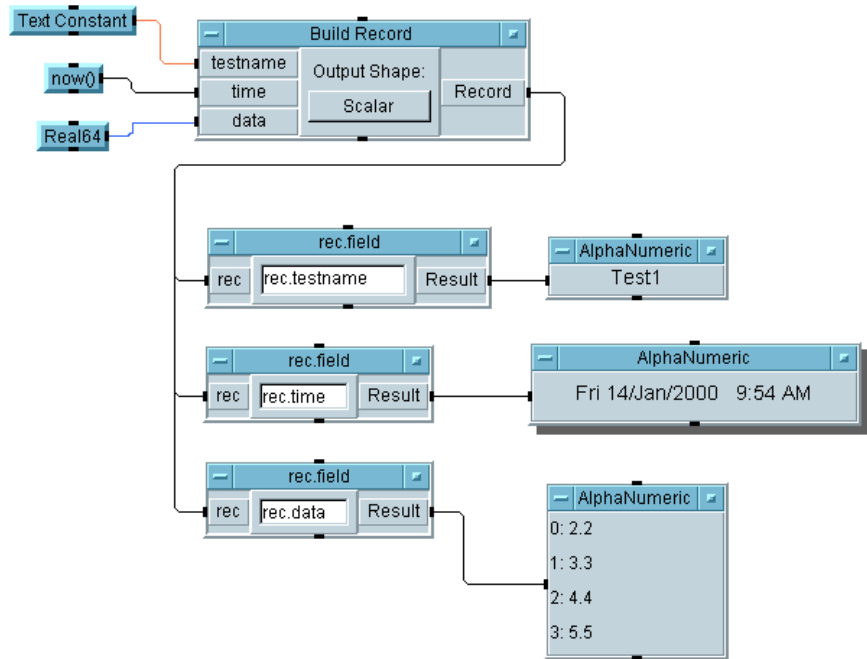

Figure 140 Using the Get Field Object
- 10 Run the program and save it as **getfield.vee**. The program should look like Figure 140.